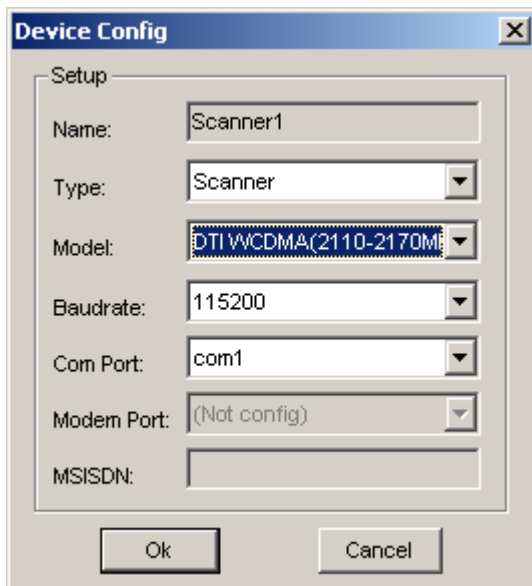

Figure 10-2 Model drop-down list
- 4) Choose **Scanner** in the **Type** drop-down list and set the model of DTI Scanner in the **Model** drop-down list, as shown in Figure 10-2.